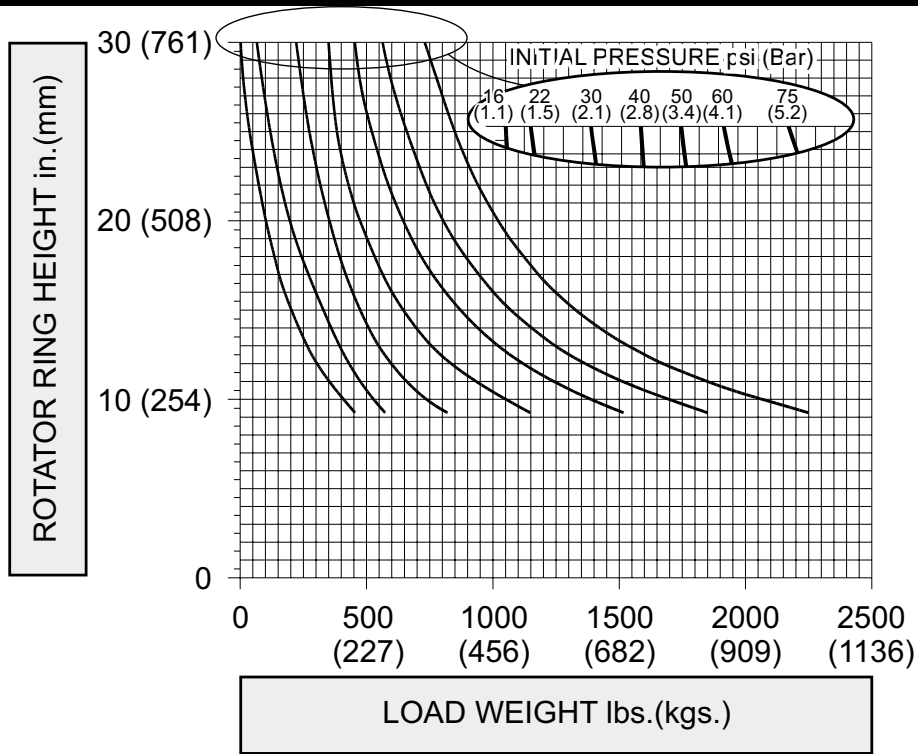

Figure 8 - EZ-30 Height vs. Load Diagram
1. To start, the EZ Loader should be in the fully extended position. However, if the EZ Loader is collapsed, slowly turn the HOLD DOWN / RELEASE handle to the RELEASE position (fig. 8) and allow the EZ Loader to fully extend. Note: When the EZ Loader is extended, the HOLD DOWN / RELEASE handle may be in either position (HOLD DOWN or RELEASE).